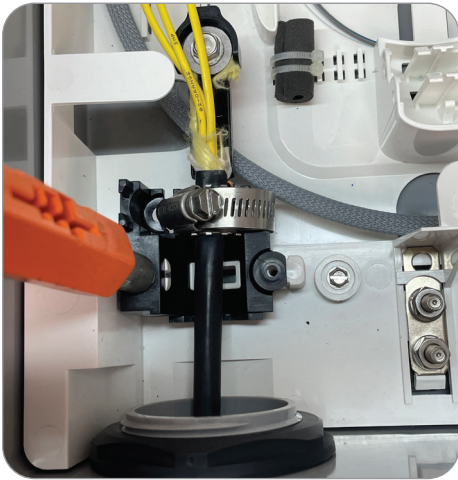

Figure 58
5. If using the **conduit version**, place cable attachment unit and cable into position, and secure using the 3/8" can wrench (**Figures 58 and 59**).